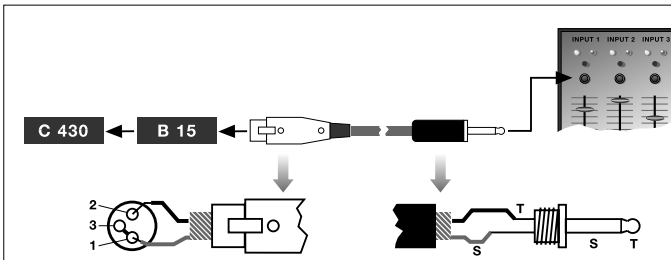

Fig. 2: Connecting to an unbalanced input.
1. On the XLR connector, use a wire bridge to connect pin 1 to pin 3 and the cable shield. Refer to fig. 2.